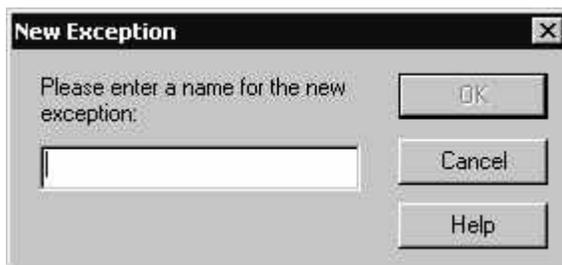

Figure 5.15 New Exception Dialog
5. On either tab, click **Add** to open the **New Exception** dialog, as shown in Figure 5.15.